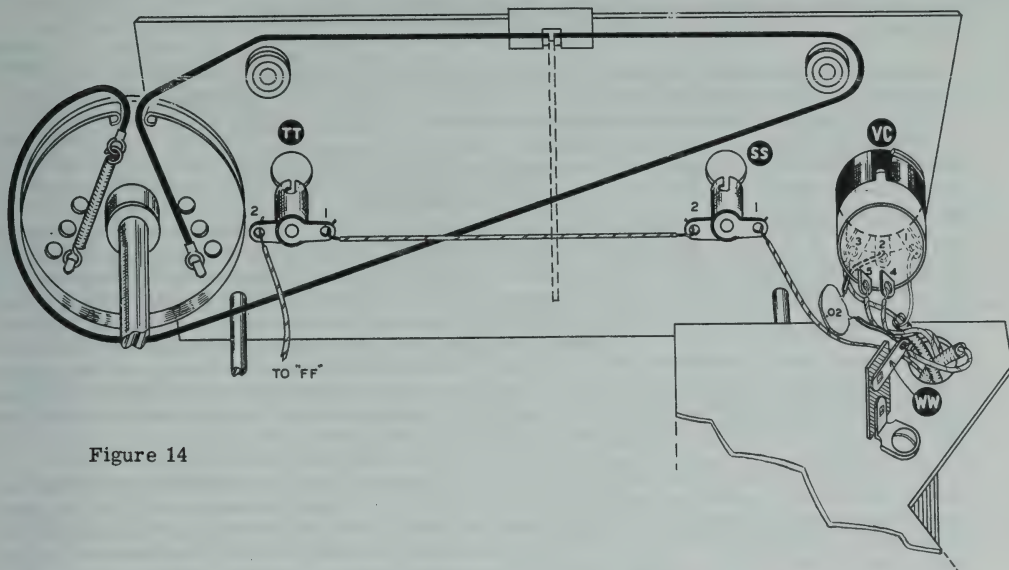
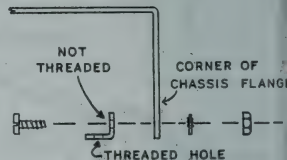

Figure 14
Figure 15
- (✓) String the dial cord as shown. It has been pre-cut to the proper length and no further adjustment is necessary. See Figure 14.
- ( ) Turn the receiver over and insert the end of the line cord through grommet N at the rear of the chassis. Tie a knot 2 1/2" from the end. Connect one lead of the line cord to M1 (S) and the other lead to M3 (S).
- ( ) Mount the four angle brackets as shown in Figure 15, using 6-32 x 3/16 screws, lockwashers and nuts.